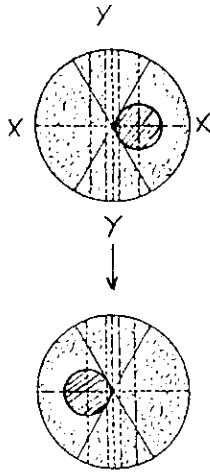

Fig. 13
- Using the micrometer head, move the stage to bring the starting point of the measurement under the center of the crossline reticle. Now, read the graduation on the Micrometer. (Fig. 13)